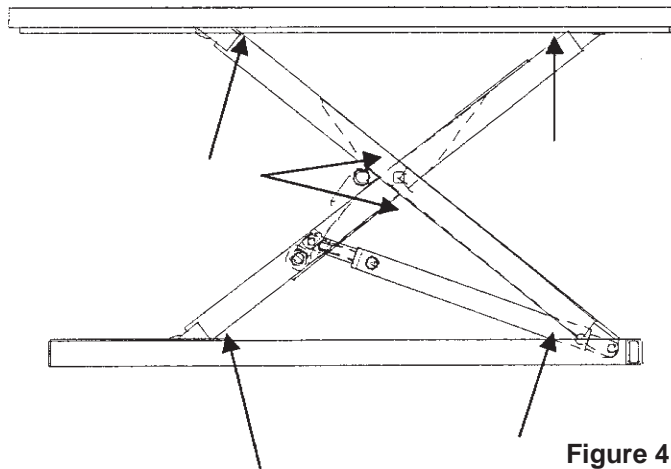

Figure 4 – Pinch Points
As the lift table moves up and down, “pinch points” are created at the places shown in Fig. 4. If you are standing too close to the lift when it is moving, your arm or leg may be caught in the moving parts, and you may be hurt. Stay away from the pinch points when the lift is moving.
“pinch points” are created at the places shown in fig. 4. If you are standing too close to the lift when it is moving, your arm or leg may be caught in the moving parts, and you may be hurt. Stay away from the pinch points when the lift is moving.
- **As the lift table moves up and down, "pinch points" are created at the places shown in Fig. 4. If you are standing too close to the lift when it is moving, your arm or leg may be caught in the moving parts, and you may be hurt. Stay away from the pinch points when the lift is moving.**